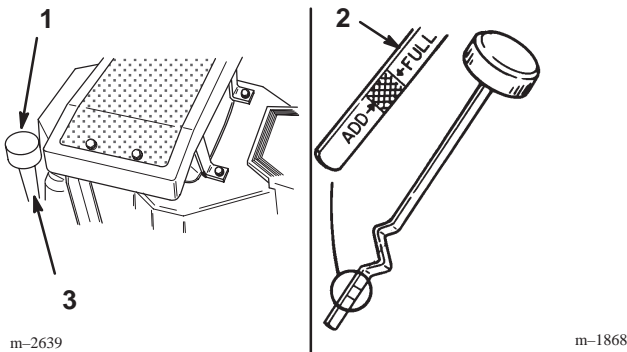

Figure 17
2. Clean around the oil dipstick (Fig. 17) so dirt cannot fall into the filler hole and damage the engine.
3. Unscrew the oil dipstick and wipe the metal end clean (Fig. 17).
4. Slide the oil dipstick fully into the filler tube, do not thread onto tube (Fig. 17). Pull the dipstick out and look at the metal end. If oil level is low, slowly pour only enough oil into the filler tube to raise the level to the “FULL” mark.
5. Slowly pour approximately 80% of the specified amount of oil specified, page 25, into the filler tube (Fig. 17). Now check the oil level; refer to Checking Oil Level, page 26. Slowly add additional oil to bring to “FULL” mark on dipstick.